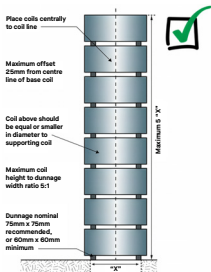

Figure 7a. Coils centrally stacked.
- Coils should be stacked centrally above each other (Figure 7a and b).